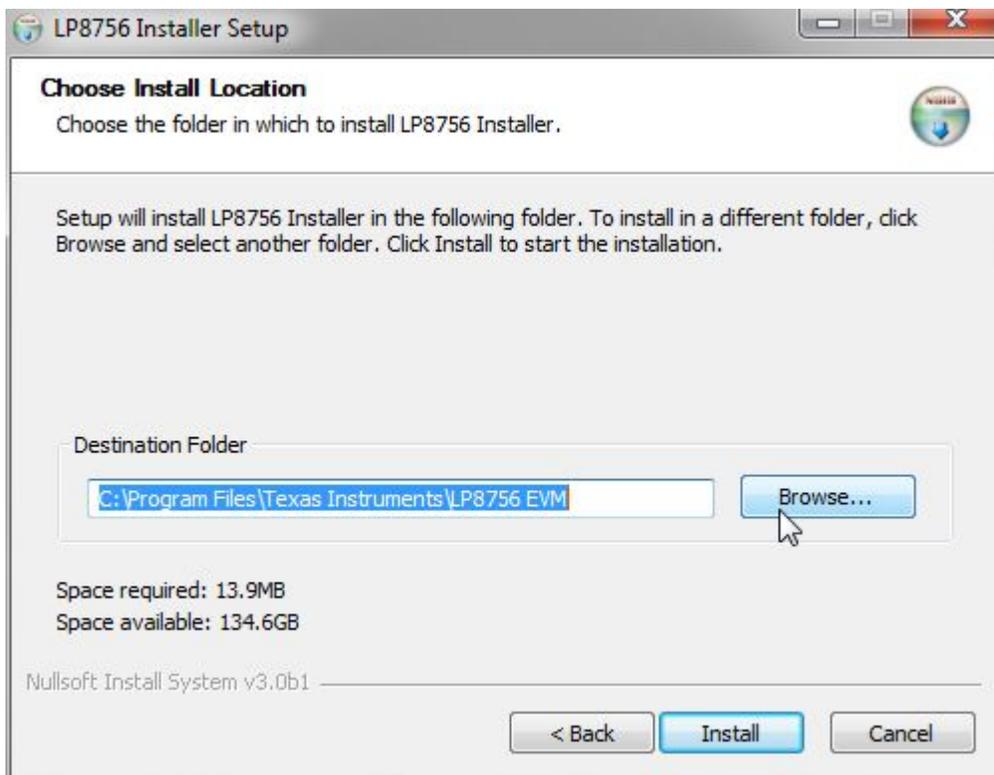

Figure 4. LP8756 Destination Folder
4. Installer prompts to select Destination Folder (see Figure 4).